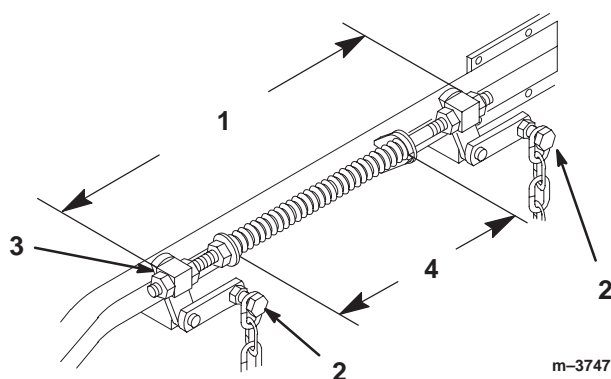

Figure 52
- Loosen four top chain bolts in slots. Check the length of the rod/swivel assemblies. Distance from outside of rear swivel to outside of front swivel should be 19-17/32 in. (496 mm) (Fig. 52). Make sure that all four swivels move freely in holes.
- Lift up on four (4) top chain attachment bolts, in the slots, to take slack out of chains and tighten flange lock nuts. (Deck is still supported by two rear and one front blocks under mower.)
2. Springs are compressed so the distance between the two large washers should be 11 in. (279 mm) (Fig. 52).
3. Adjust by turning nut in front of each spring (Fig. 52). Clockwise will shorten spring; counterclockwise will lengthen spring.